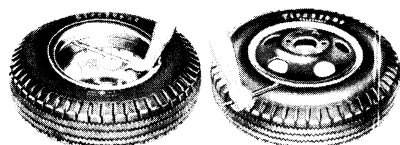

FIG. 3 Removing Ring and Removing Tire—Two-Piece Rim
4. Turn the wheel over and loosen the opposite tire bead from the rim by hammering the hook end of the rim tool between the rim flange and the tire bead. Pry the tire bead away from the taper, and remove the tire from the rim (Fig. 3).